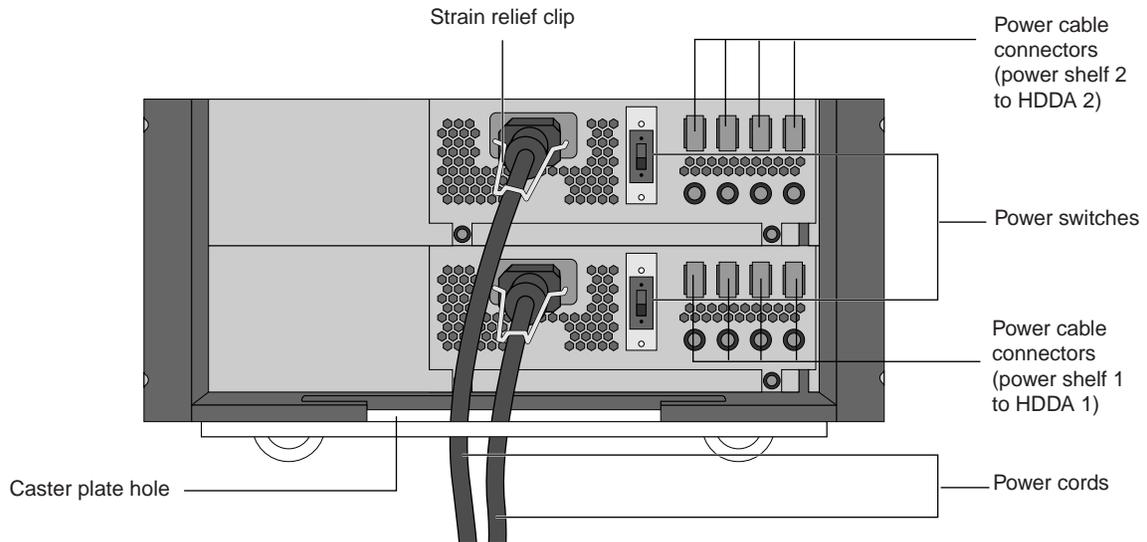

Figure 26. NS 7000/030 power system (back view)
2. Once the monitor prompt (HP>) appears on the screen, turn off the main power switch on the storage subsystem (Figure 26), and then turn off the main power switch on the base cabinet.
4. Release the strain relief clip and unplug the AC power cord on the back of the chassis (Figure 26).
5. Remove the gray power cables from the power cable connectors (Figure 26) on the PDU. The other end of each power cable can remain connected to the HDDA chassis.
- ▲ HDDA 2 to power shelf 2See Figure 26 for power cable connector locations.
See Figure 26 on page 29 for power cable connector locations.